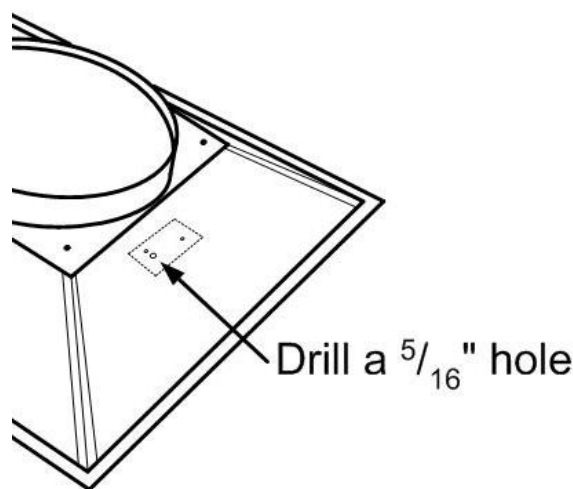

Fig. 1
2. Drill a 5/16" hole in the top of the housing on the same side as the thermostat (see Fig. 1 and 2).